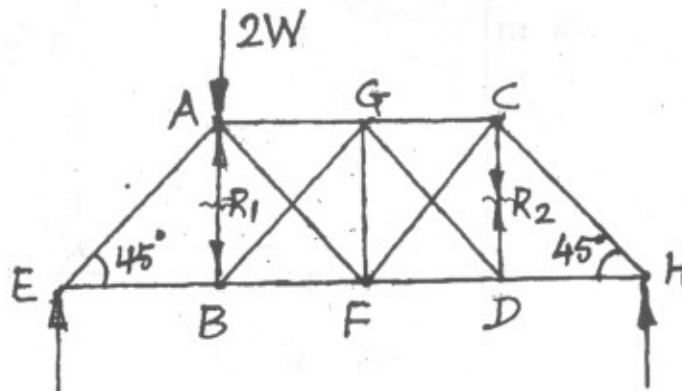

Fig. 11
6. The bars of the pin jointed frame shown in Fig. 11 are of the same material and have the same cross-sectional area. Show that the forces in AB and CD are compressive and tensile respectively of magnitude  $\frac{W}{2} \left[ \frac{1 + 2\sqrt{2}}{3 + 4\sqrt{2}} \right]$ . [16]